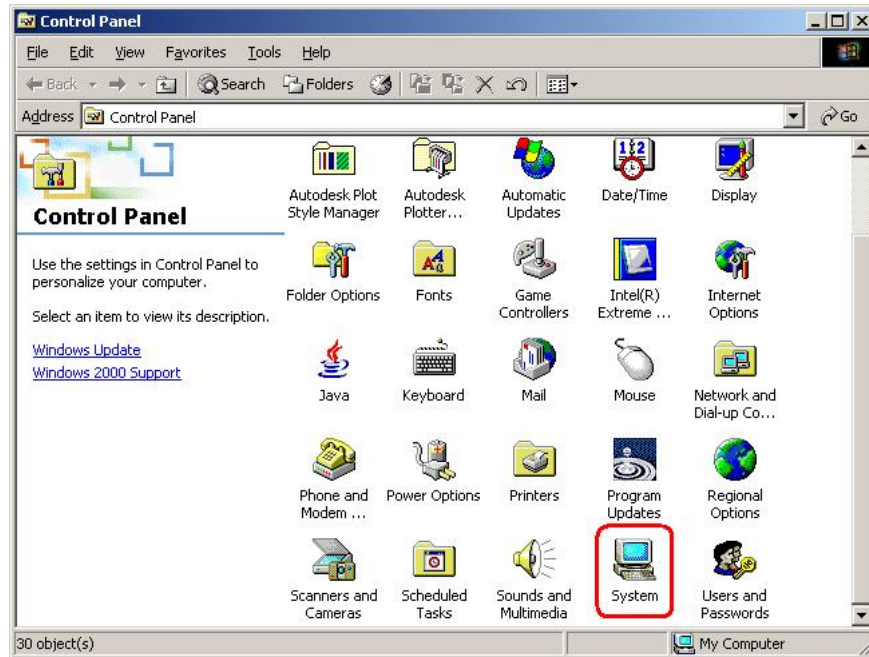

Figure 6-21: Double Click the System Icon
Step 2: Double click the **System** icon (**Figure 6-21**).